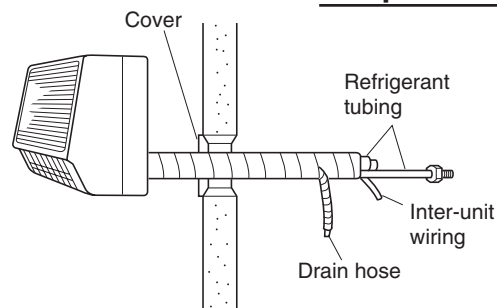
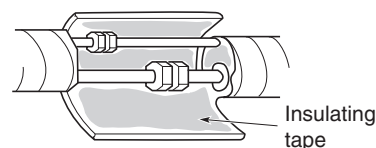

Fig. 1-45
Fig. 1-46
- (1) Shape the refrigerant tubing so that it can easily go into the hole. (Fig. 1-45)
- (2) Push the wiring, refrigerant tubing and drain hose through the hole in the wall. Adjust the indoor unit so it is securely seated on the wall fixture.
- (3) Carefully bend the tubing (if necessary) to run along the wall in the direction of the outdoor unit and then insulate to the end of the fittings. The drain hose should come straight down the wall to a point where water runoff will not stain the wall.
- (4) Connect the refrigerant tubing to the outdoor unit. (After performing a leak test on the connection, insulate it with insulating tape. (Fig. 1-46))